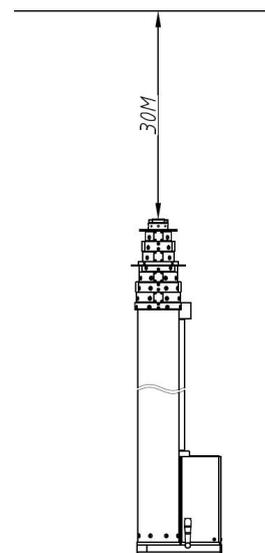

Figure 2
- 3、 Make sure that the spaces 25 meters above the mast installation place is clear without electricity lines or bridges etc (Figure 2)